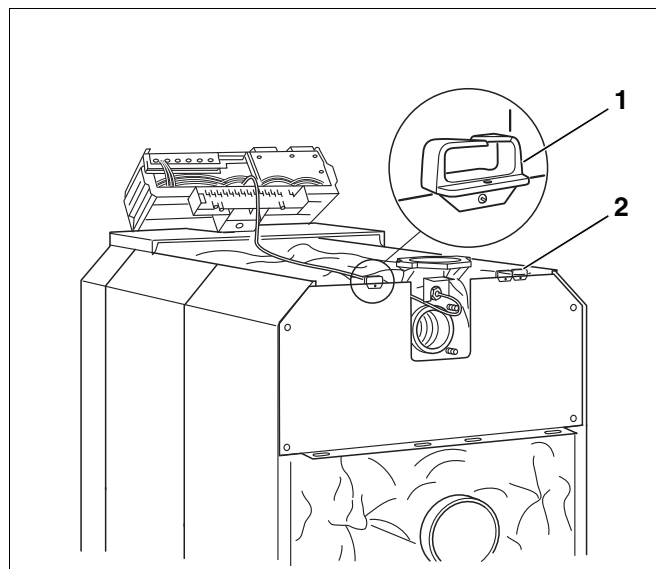

Fig. 63 Power supply
- Screw cable entry (Fig. 63, [1] and [2]) to the left and right of the boiler rear panel.